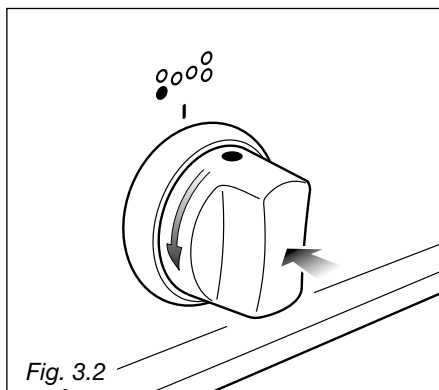

Fig. 3.2
- 1 – Push and turn the knob in an anti-clockwise direction up to the  position (maximum rate), push in and hold the knob until the flame has been lit (fig. 3.2).